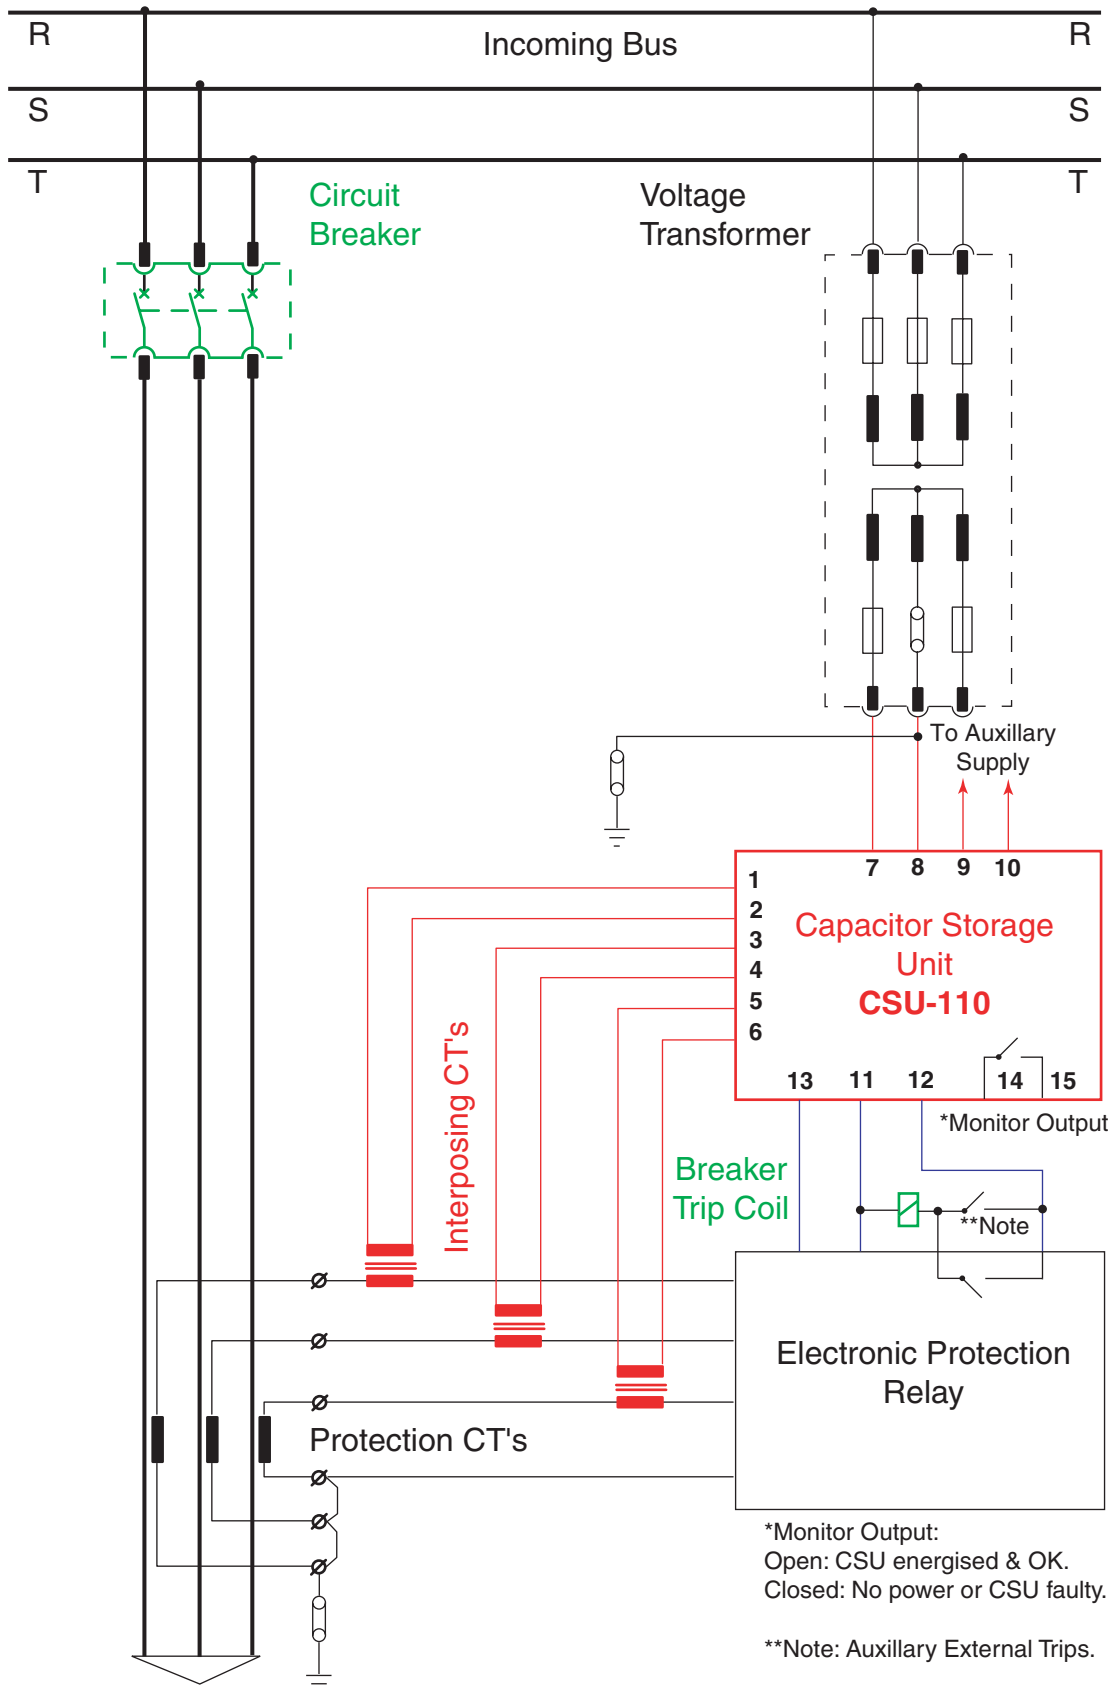

Fig 2
The Capacitor Storage Unit is simple to install. Refer to the instructions below and to the typical connection diagram shown in Fig 2 on p6.
3. If not already fitted install a VT and connect secondaries to VT input as shown in Fig 2 p6.
7. Connect the trip coil as shown in Fig 2 p6.